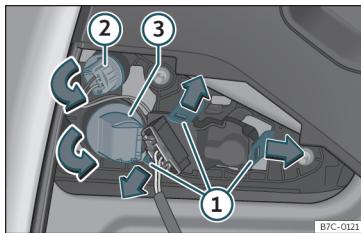

Fig. 94 Remove the bulb holder.
2. Unlock the securing tabs from the bulb holder »» Fig. 94 ① or turn the bulb holder to the left ② and ③.